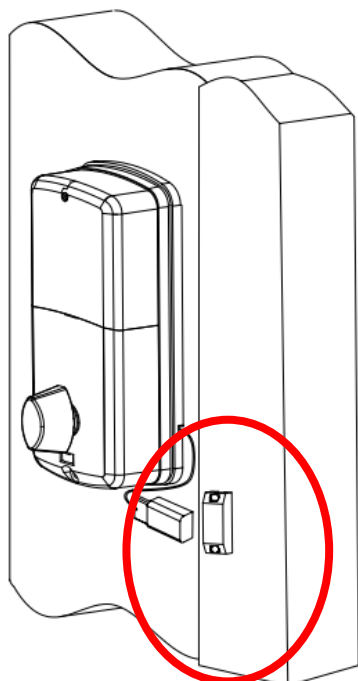

Figure P-5
(6) Lock the door/Relock(See Figure P-5, Figure P-6)